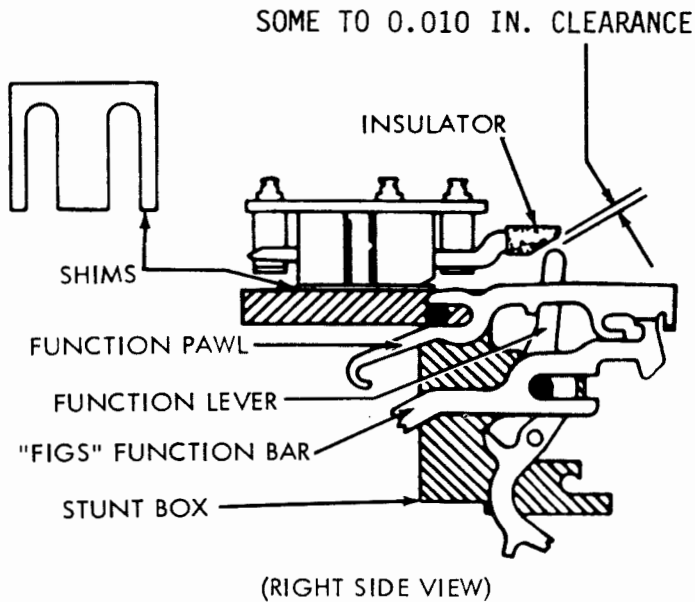

Figure 6-166. "Figures" Stunt Box Contact
(1) Refer to figure 6-166.
(2) With stunt box mounted on typing unit, manually set up letters combination on typing unit selector.
(3) Rotate typing unit main shaft until function lever is in extreme forward position toward contact insulator.
(4) Rotate typing unit main shaft until function